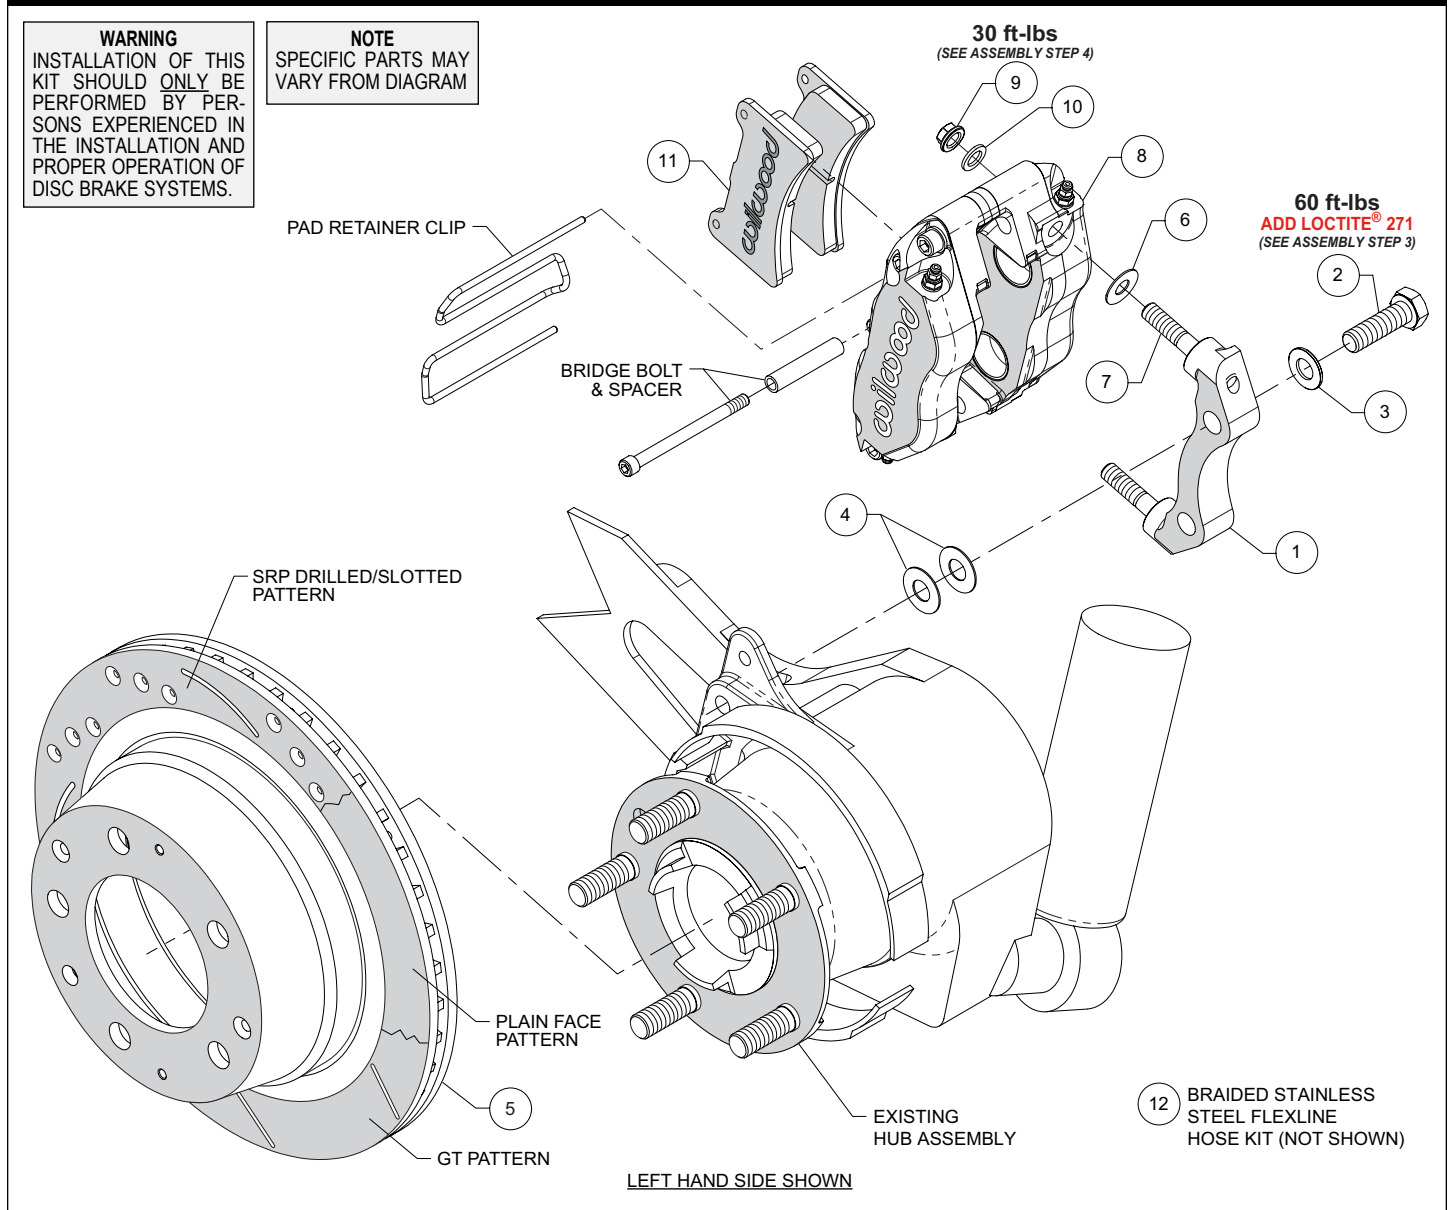

Figure 1. Typical Installation Configuration
NOTE: Numbers in parenthesis refer to the parts list and Figure 1 on the preceding pages.
STEP 1 The caliper mount bracket (1) should initially be installed with clean, dry threads on the mounting bolts. Orient the bracket, as shown in Figure 1 and Photo 1, and install using bolts (2) and washers (3). Initially place two .033" thick shims (4) on each bolt between the bracket (1) and upright, Figure 1 and Photo 2 (see arrows). Temporarily tighten the mounting bolts. **NOTE:** The bracket must fit squarely against the mount bosses on the upright. Inspect for interference from casting irregularities, machining ridges, burrs, etc.
STEP 2 For kits 140-16680 and 140-17002, install the Wilwood rotor (5) onto the hub assembly, Figure 1 and Photo 4.
STEP 3 Initially place one .035" thick shim (6) on each stud (7) between the caliper (8) and the bracket (1), as shown in Figure 1 and Photo 3. Mount the caliper (8) onto the bracket (1) using lock nuts (9) and washers (10), Figure 1. Temporarily tighten the lock nuts. View the rotor through the top opening of the caliper. The rotor should be centered in the caliper, Photo 5. If not, adjust by adding or subtracting shims (4) between the bracket (1) and the upright. Always use the same amount of shims on each of the two mounting bolts. Once the caliper alignment is correct, remove the bracket mounting bolts (2) one at a time, apply red *Loctite*® 271 to the threads, and torque to value shown in Figure 1.
STEP 4 Remove the caliper pad retainer clip, bridge bolt and spacer from the caliper, Figure 1. Insert the brake pads (11) into the caliper, with the friction material facing the rotor, Photo 6. Check that the top of the brake pad is flush with the outside diameter of the rotor, Photo 7. If not, adjust by adding or subtracting shims (6) to the stud between the caliper (8) and the caliper mount bracket (1). After the caliper pad height is set, torque the caliper lock nuts 9) to value shown in Figure 1. Secure the brake pads in place with the pad retainer clip and reinstall the bridge bolt and spacer.
STEP 6 Attach supplied brake line to caliper. **NOTE:** OEM rubber brake hoses generally cannot be adapted to Wilwood calipers. Install Wilwood's stainless steel braided flexline hose kit (12), P/N 220-16710 included with this kit, as shown in Photo 9. The caliper inlet fitting is a 1/8-27 NPT. Use the included steel adapter fitting at the caliper (use PTFE tape on the pipe threads of adapter fitting for proper sealing to caliper). **Ensure hoses are routed to prevent contact with moving suspension, brake or wheel components.**